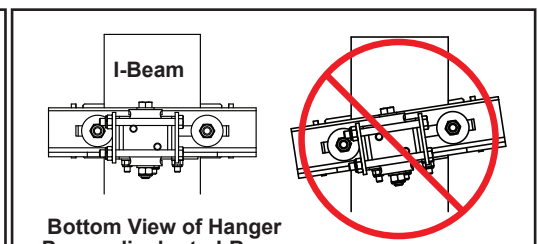

Figure 3-15B
- Step 7. Ensure I-beam bracket is perpendicular to I-beam lower flange. See Figure 3-15B below.
- Step 8. Secure mounting bracket to rail by tightening two (2) M10 x 30 mm HHCS until lock washers are flat. Do not over tighten.